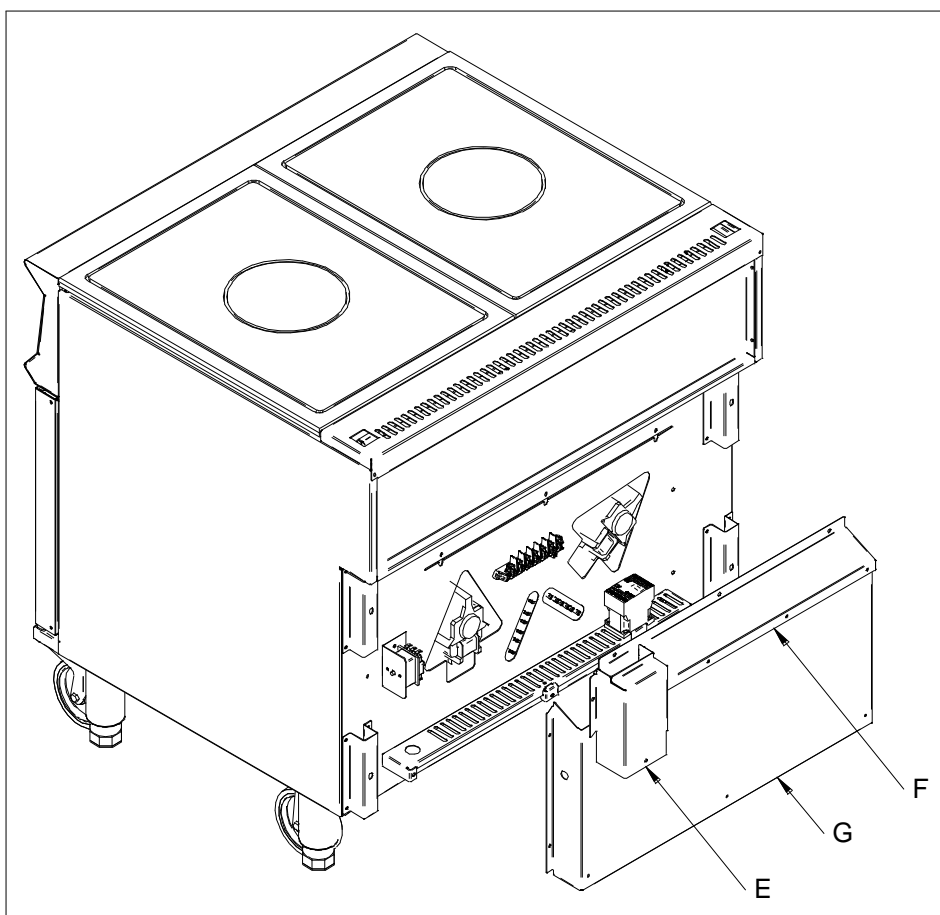

Fig 6
Working from the back of the appliance (Fig 6), remove the cable channel (E) and rear cover (F).
Working from the back of the appliance (Fig 6), remove the cable channel (E), lid (F) and rear cover (G).